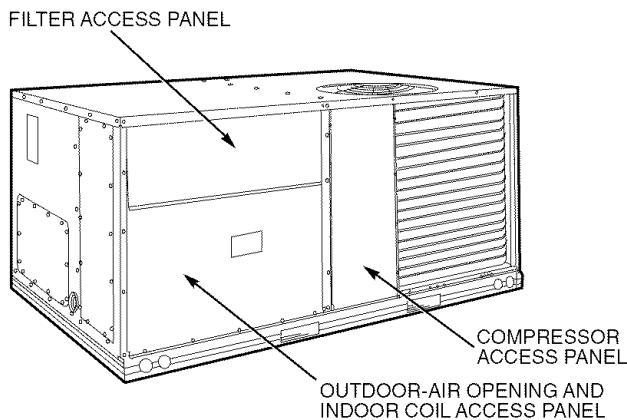

Fig. 22 — Typical Access Panel Locations
1. To remove the existing unit filter access panel, raise the panel and swing the bottom outward. The panel is now disengaged from the track and can be removed. See Fig. 22.